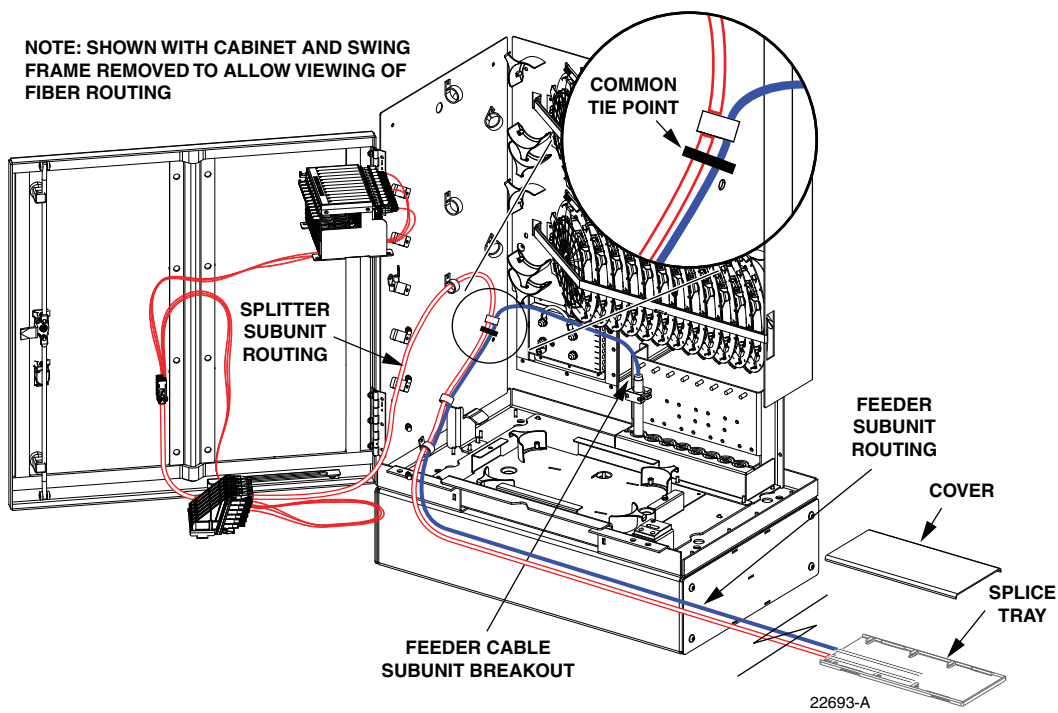

Figure 25. Feeder Fiber Routing To Splice Tray
4. Beginning at the feeder cable subunit breakout point shown in Figure 25, route the feeder cable fibers to the intersect point with the splitter fibers.